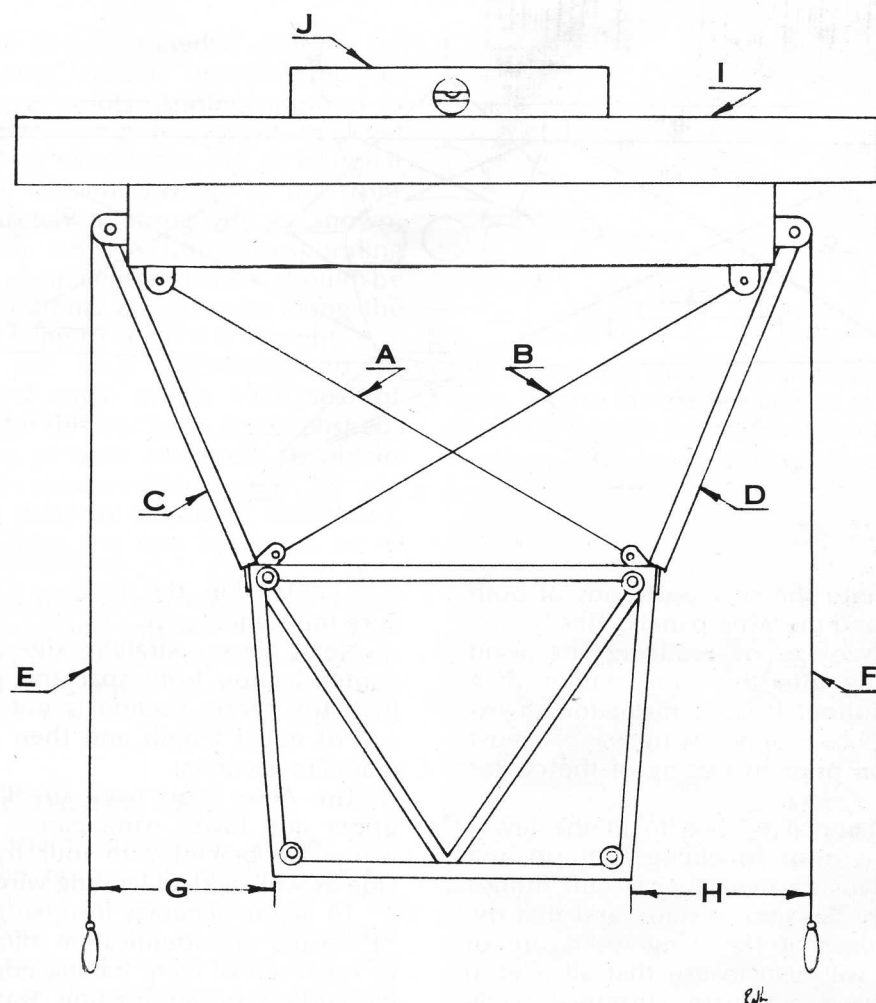

FIG. 1
The first step in rigging is to position the center section so that the longitudinal center line of the section is directly above the center of the fuselage. To accomplish this, the attached center section roll wires (A) and (B) in Fig. 1 must be adjusted until they measure (trammel) the same distance from clevis pin to pin.